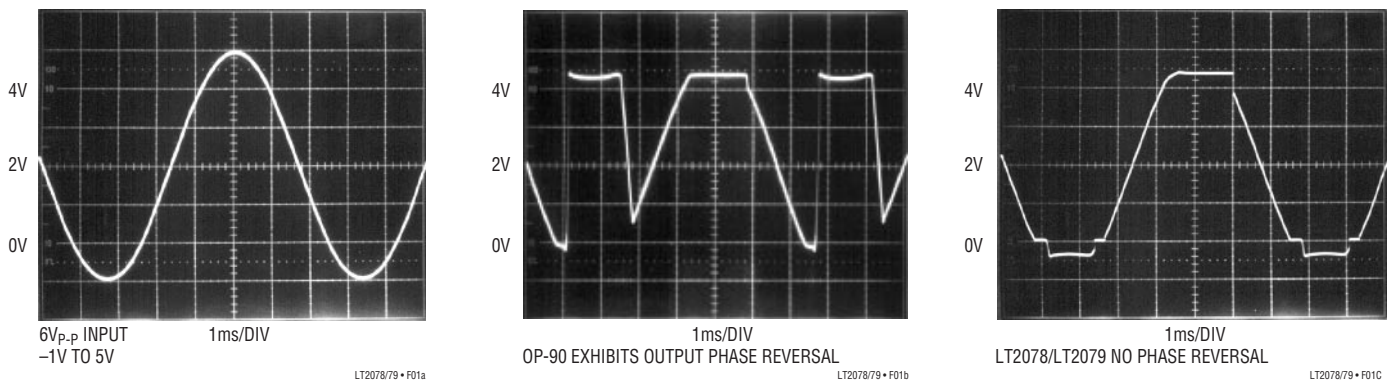

Figure 2. Voltage Follower with Input Exceeding the Negative Common Mode Range ( $V_S = 5V, 0V$ )
2. When the input is more than 400mV below ground (at 25°C), the input stage saturates and phase reversal occurs at the output. This can cause lockup in servo systems. Due to a unique phase reversal protection circuitry, the LT2078/LT2079 output does not reverse, as illustrated in Figure 2, even when the inputs are at  $-1V$ .